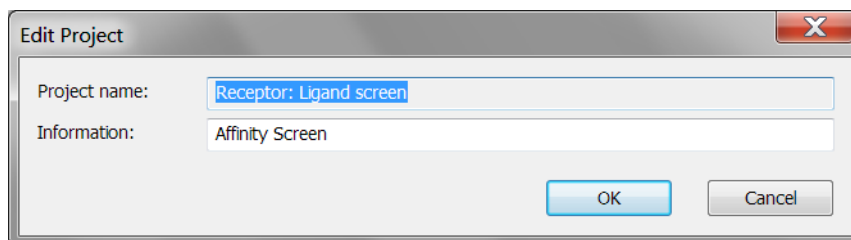

Figure B-43: Edit Project
1. Right-click on the project and select **Edit Project**, or double-click on the project. The **Edit Project** window displays (Figure B-43).